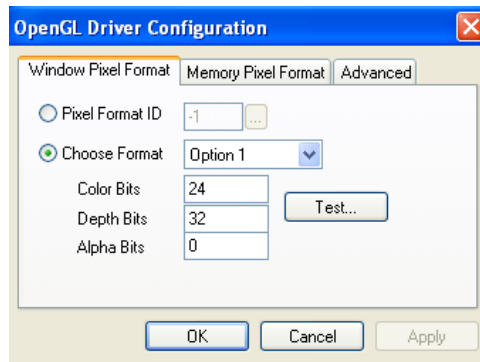

Figure 5-94 OpenGL Driver Configuration dialog box
4. In the *OpenGL Driver Configuration* dialog box (Figure 5-94), select **Pixel Format ID** and enter this number.